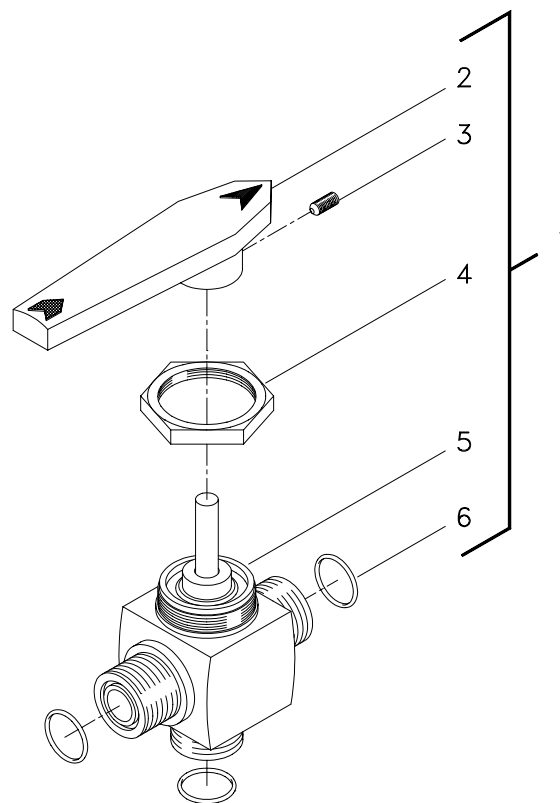

Figure 6-25. Ball Valve (ALP-V302)
6.8.5.3 Ball Valve (ALP-V302). Ball valve (ALP-V302) is also known as the supply selector valve in the control console assembly. Although ALP-V302 is similar to four other ball valves in the system (ALP-V210, -V304, -V305, and -V306), corrective maintenance is presented separately since ALP-V302 does not feature a handle stop insert and has three ports instead of two. Corrective maintenance for ALP-V302 is limited to removal and replacement in accordance with the following procedure. Refer to Figure 6-25 for parts location and to Figure 7-22 for an index of replacement parts.